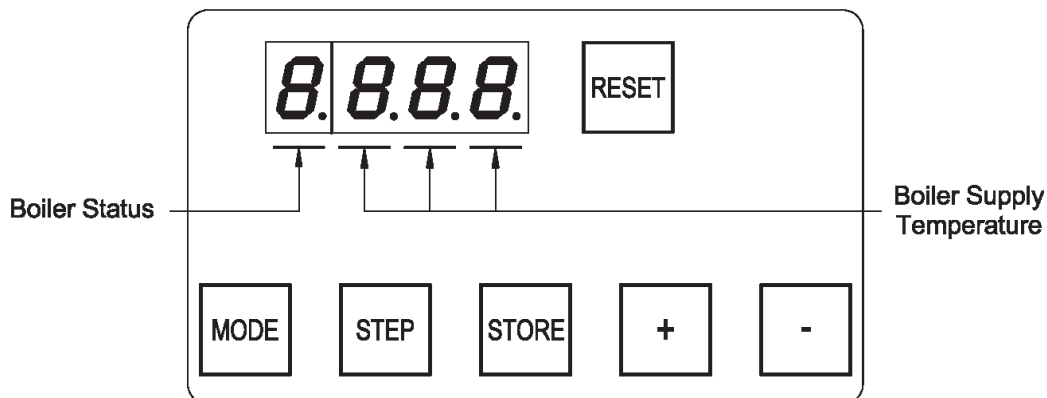

Figure 12.1: Normal Display In Standby Mode
Under normal conditions, the boiler is in standby mode and the display looks like that shown in Figure 12.1. The three digits to the right of the decimal point are the boiler’s supply temperature. The digit to the left of the decimal point is the boiler’s status code. A list of status codes, and their meanings, is shown in Table 12.3.
- “*Stby*” for Standby Mode. Upon entering standby mode, “Stby” will briefly appear on the display and then the display will show the boiler’s status along with the supply temperature (Figure 12.1).